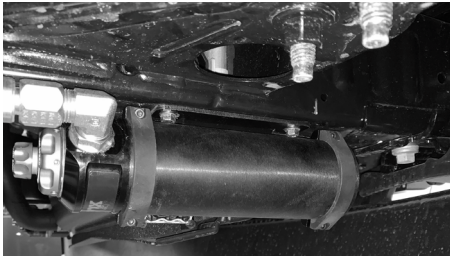

Figure 11: Passenger side bracket shown
24. Using two supplied billet clamps and screws, mount the reservoir to the brackets. Utilize the slots in the bracket to locate clamps. Do not feed the clamps through the slots in the brackets. (Figure 11)